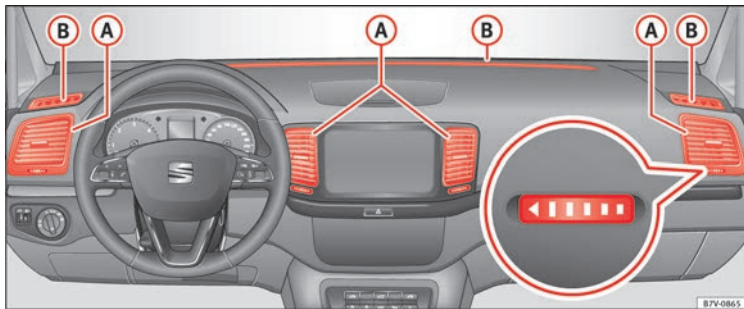

Fig. 195 Air vents in the dash panel
Never close the air vents » **Fig. 195 (A)** completely to ensure heating, cooling and ventilation inside the vehicle.